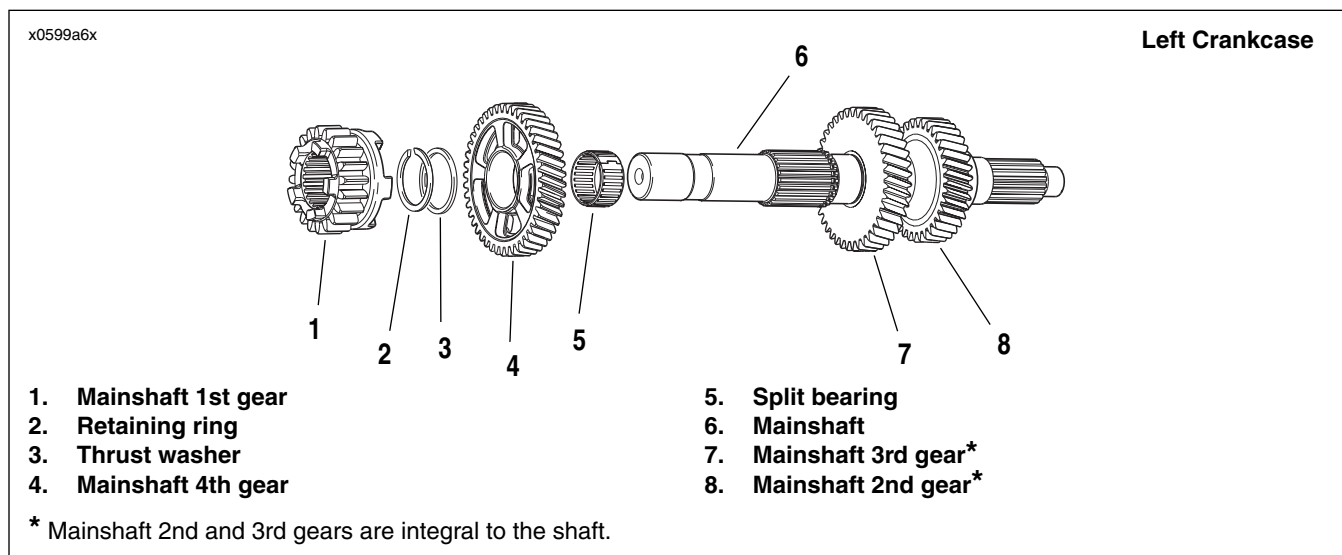

Figure 6-63. Transmission Mainshaft Assembly/Reassembly
1. See Figure 6-63. Install **new** split bearing (5) in 4th gear position on mainshaft.
2. Install 4th gear (4) and thrust washer (3).
3. Using RETAINING RING PLIERS (Part No. J-5586), expand and install **new** retaining ring (2).
4. Install 1st gear (1).